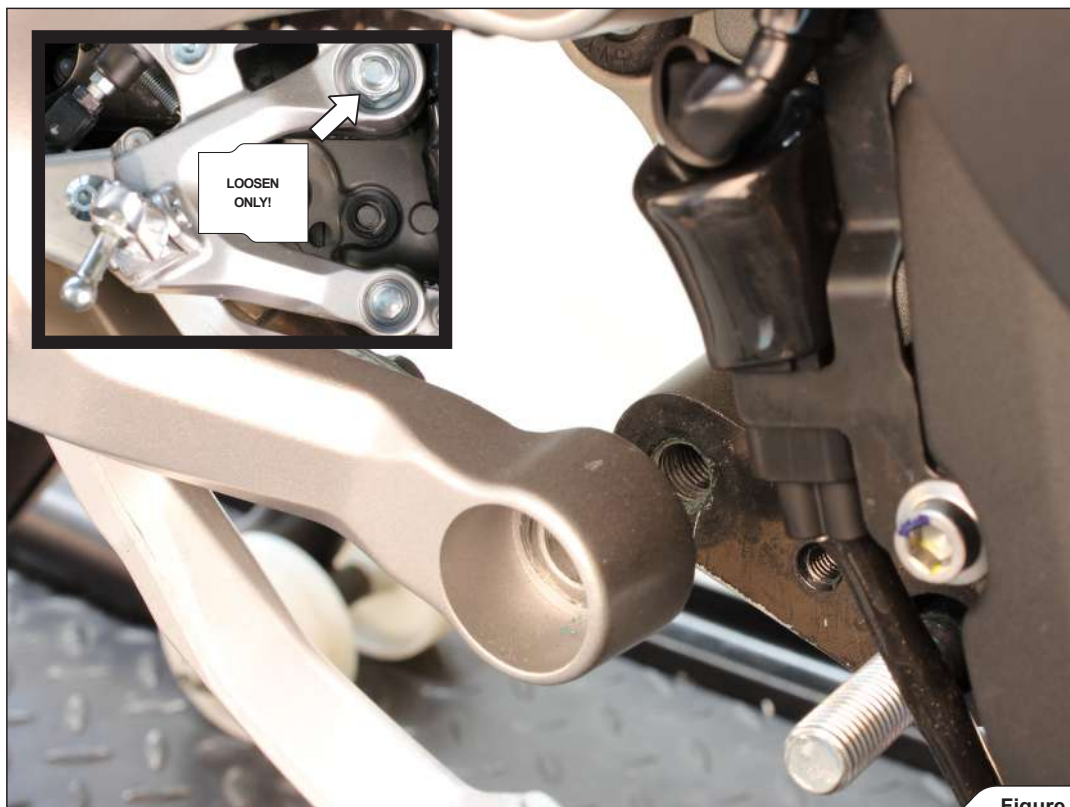

Figure 5
3. Loosen the swing arm's pivot nut and unscrew the right footrest bracket (**Figure 5**).